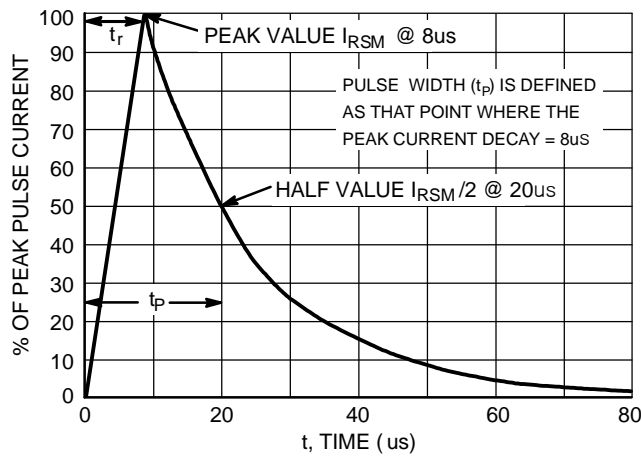

Figure 4. 8 X 20 us Pulse Waveform
- Surge current waveform per Figure 4.